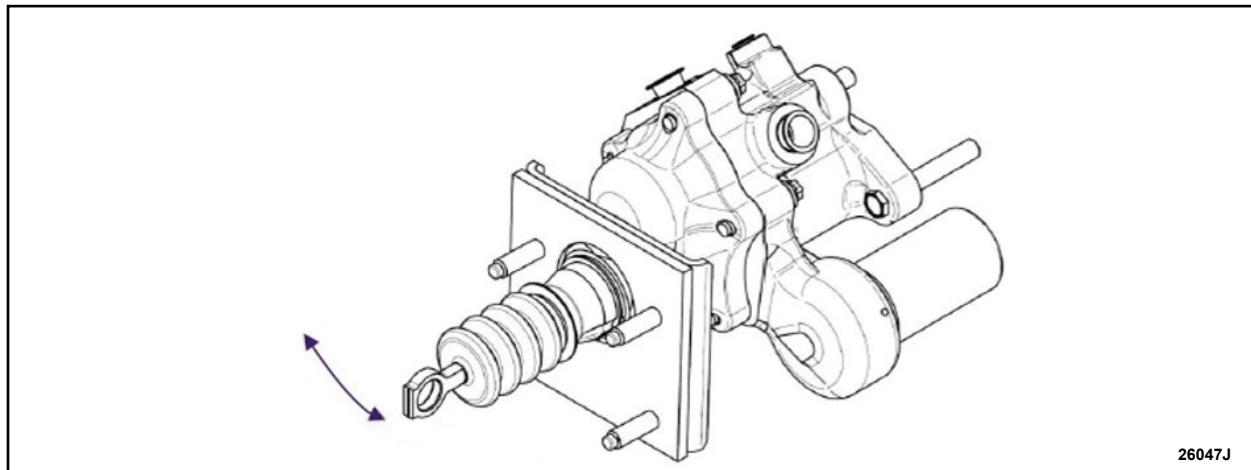

FIGURE 9
17. While pulling up on the brake pedal, gently move the brake booster push rod left to center, the full length of travel, 8 (eight) times. See Figure 9.